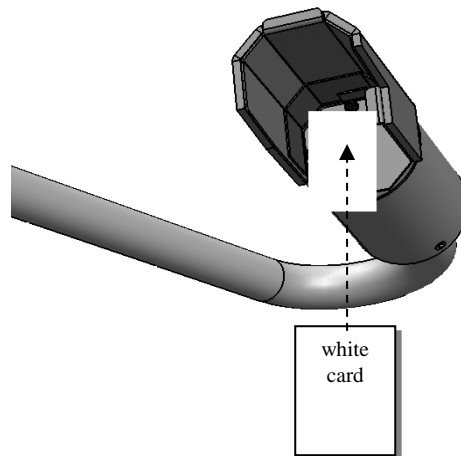

Figure 4-2 Transmitter hood with white card
- Step 4.** Insert a white card (or paper) in the transmitter hood that blocks and almost touches the window (see Figure 4-2 Transmitter hood with white card).
Step 5. Insert a white card in the forward (or back) scatter receiver hood that blocks the window, and almost touches it (similar to Figure 4-2 Transmitter hood with white card).